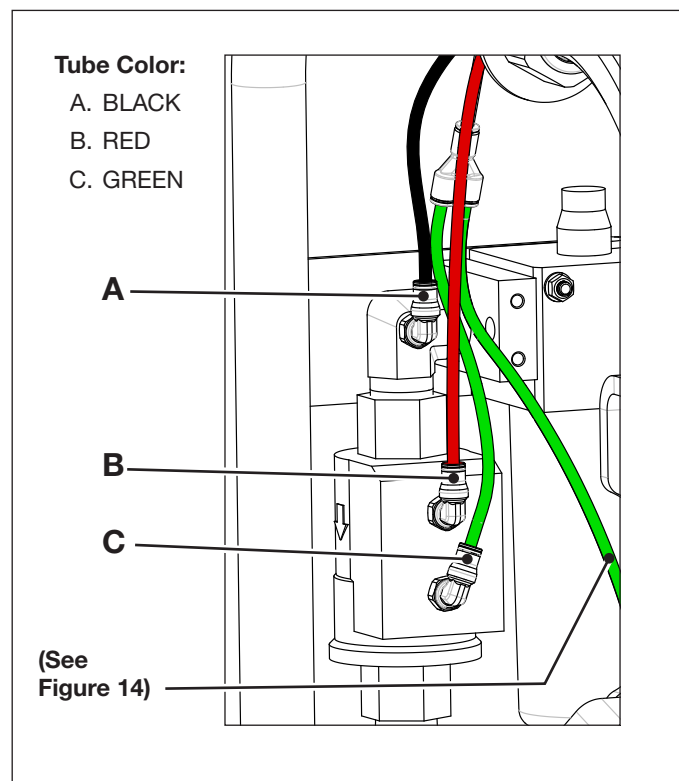
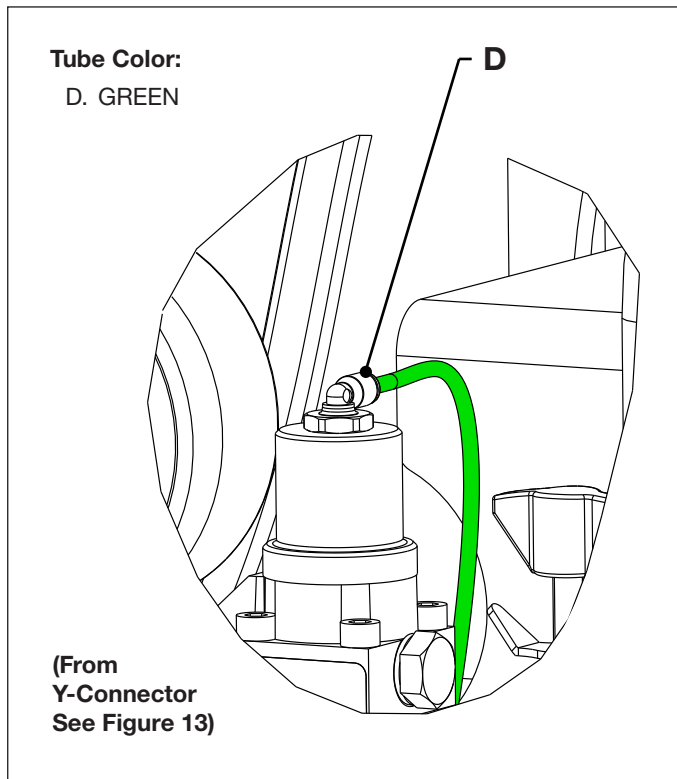

Figure 13: Air Tube Connections - Air Logic Control Valve.
Figure 14: Air Tube Connection - Hyd. Control Valve
3. Disconnect pump air tubes at locations "A", "B", "C" and "D" as shown in Figure 13 and Figure 14.
23. Reconnect the pump air tubes at locations "A", "B", "C" and "D". See Figure 13 and Figure 14.